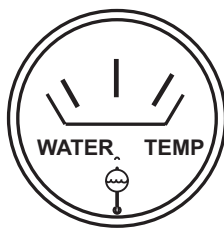

Figure 53. Coolant Temperature Gauge
16. The *coolant temperature gauge* (Figure 53) will indicate the coolant temperature. Under normal operating conditions the coolant temperature should be between 165 and 215 degrees Fahrenheit (**Green Zone**).